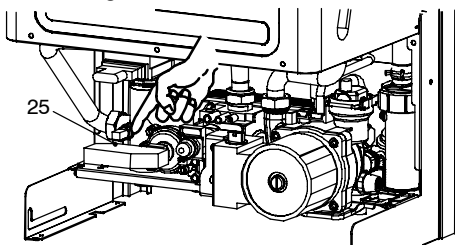

Fig. 8.4
- 11 Disconnect the C.h. temperature probe NTC 25 in Fig. 8.4
- 13 Connect the C.h. temperature probe NTC 25 in Fig. 8.4